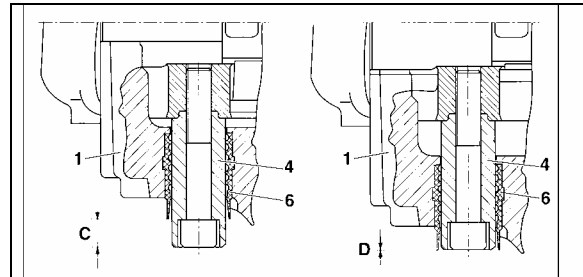

FIGURE 38: BRAKE PAD CHECK 12117
Brake pads have to be checked on a regular basis depending on the vehicle operation. The remaining thickness of the pads should never be less than 3/32 inch (2 mm). To check pad condition without removing the wheel, verify the position of guide bushing (6) relative to guide sleeve (4) (Fig. 38). When guide sleeve is in alignment with guide bushing, brake pad thickness must be checked more precisely with wheel removed. When replacing the brake pads, all four pads on an axle have to be changed at the same time. There is no inner or outer pad, since all pads are the same. Worn pads should be replaced in the same position.